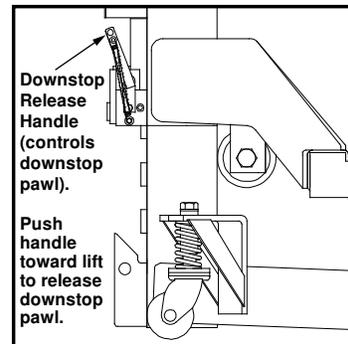

Fig. 7: Push downstop release handle toward lift
8. At each lift, release the downstop pawl by pushing the downstop release handle toward the lift (see Fig. 7.)
- △ If you decide to raise the vehicle again before it has been fully lowered, you must reset the downstop pawls. To manually reset the downstop pawls, pull the downstop release handle toward you on each of the lifts. (See Fig. 7).